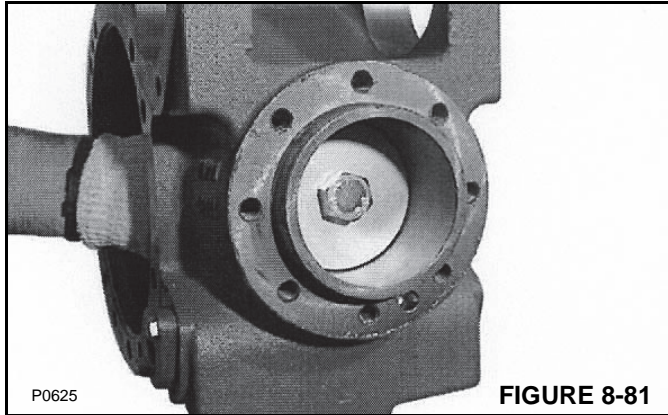

FIGURE 8-81
1. Place the center housing on a work bench. Using SPECIAL TOOL P/N 1901782, press the taper roller bearing cups (Figure 8-81) into the center housing until they seat.